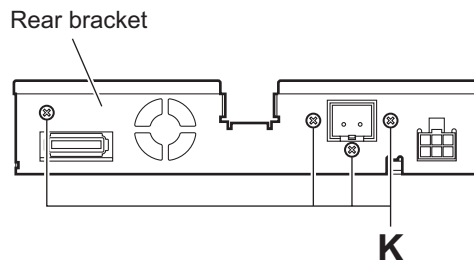

Fig.13
3.1.7 Removing the main board (See Figs.13 and 14)
- (1) From the rear side of the main body, remove the four screws **K** attaching the rear bracket. (See Fig.13.)